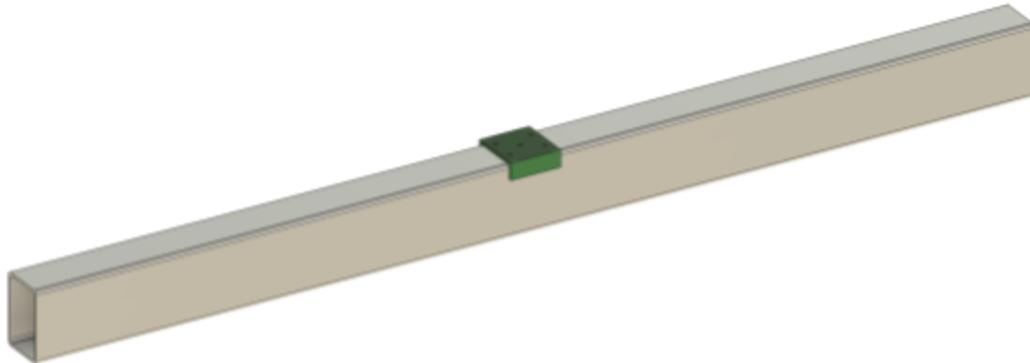

Figure 1.2
6. Position Assembly Tool #3 at the middle of the frame beam as shown in Figure 1.2, using the hole in the center of the printed tool to align it precisely to the center point mark made in the previous step.